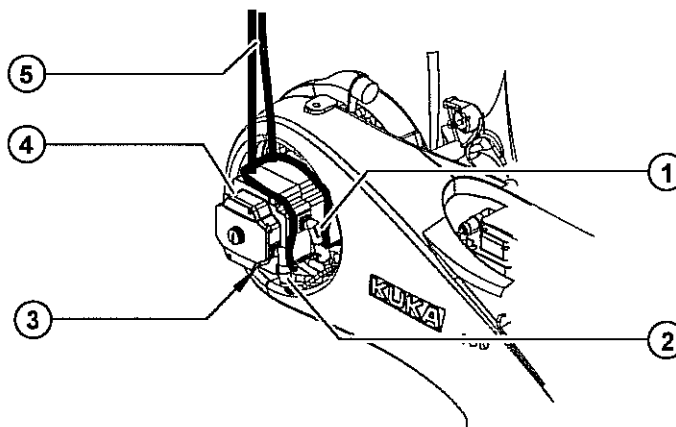

Fig. 12-4: Removing motor A2
3. Release and unplug connectors XM2 and XP2 at the sockets (>>> Fig. 12-4).